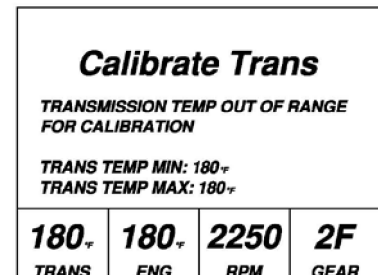

Figure 3
7. Transmission must be hot before the calibration sequence can begin (Figure 3).